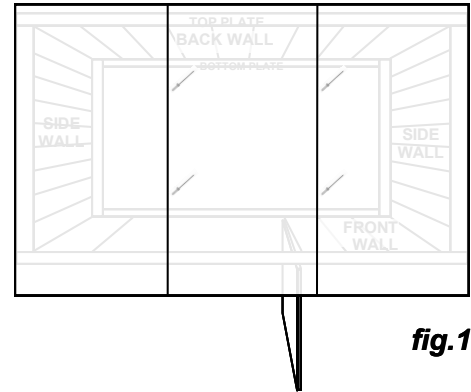

fig.1
- Rivet sheets together at overlaps with 2 x rivets per join (**fig.1**).
- Position the Roof Sheets with front overhang of 130mm at each end (**fig. 1**).